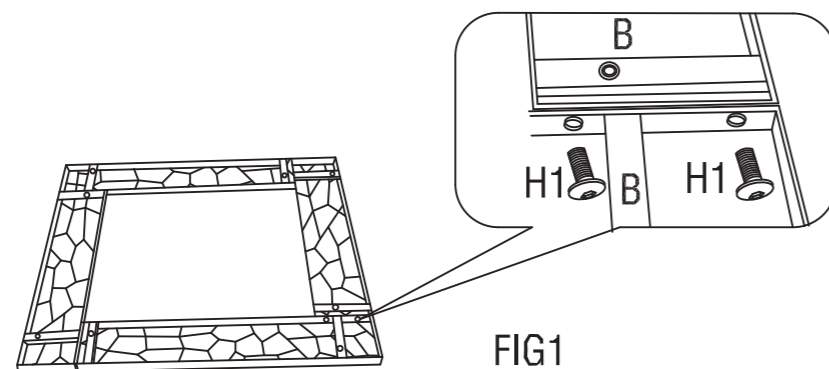

FIG1
Step 1 Place Mantle parts (B) on a soft, even clean surface with the groove sides upwards to form a square. Connect each by using Bolts (H1). (View Fig 1) Pls loosely tighten all bolts, complete bolt tightening process after four mantle parts be connected.